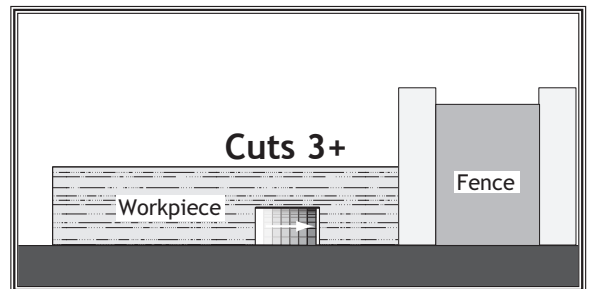

Figure 63. Additional cuts.
8. Continue making cuts toward the center of the dado until the dado is complete (see **Figure 63**).